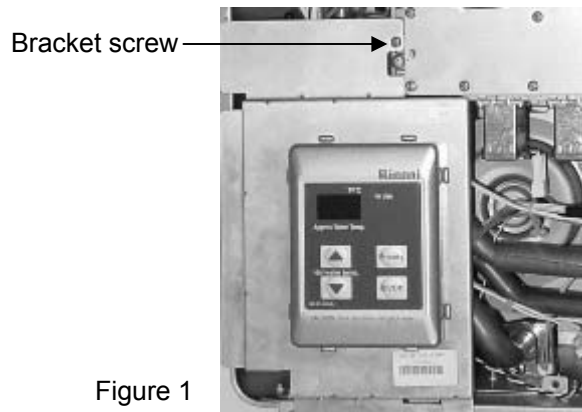

Figure 1
5. Remove the bracket holding the controller (1 screw). (Figure 1)